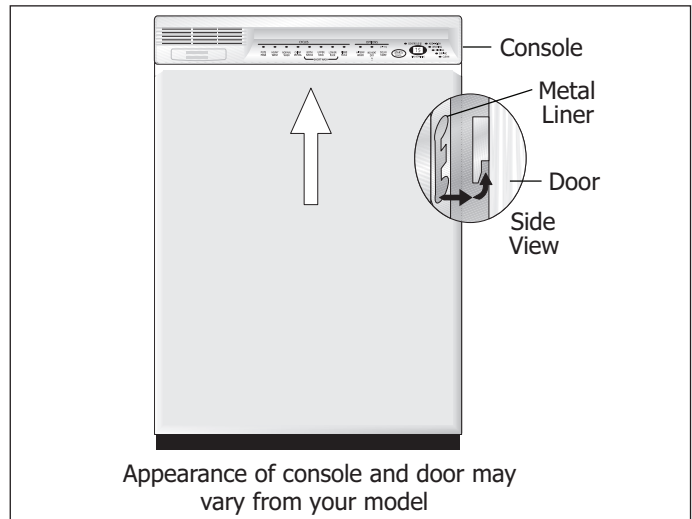

Figure 2-19.
5. When ready to replace door, fit the slots on each side of top door edge over the tabs on the metal liner. Push on sides to insure the door is flat. Push up from bottom until there is no gap between door and console. (See Figure 2-19).